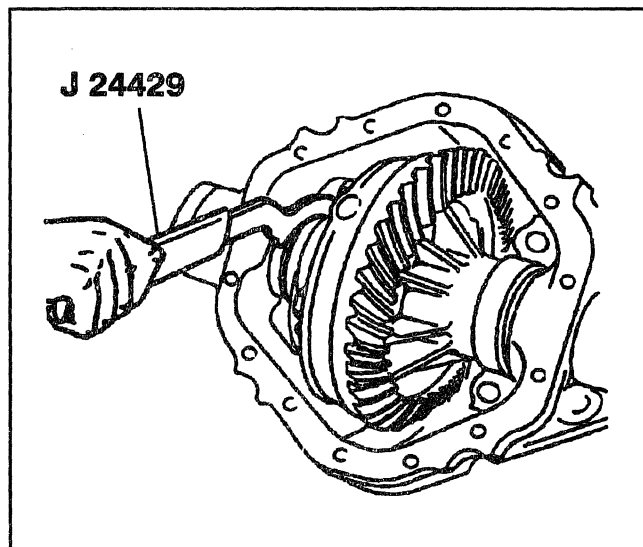

Figure 16—Adjusting the Differential Preload
1. Bearing caps (20) to the bearings in their original locations.
3. Adjusting nuts (19).
4. Bearing caps (20) and bolts (28) in their original positions.
- B. Loosen the right side adjusting nut and tighten the left side nut using J 24429 until the ring gear contacts the drive pinion (Figure 16). Do not force the gears into contact. This is the zero lash point.
5. Adjusting nut lock (21) and lock bolt (22) to the left nut.
5. If the reading is too high, remove the adjusting nut locks, and loosen the right nut one slot. Then tighten the left nut one slot (Figure 16).